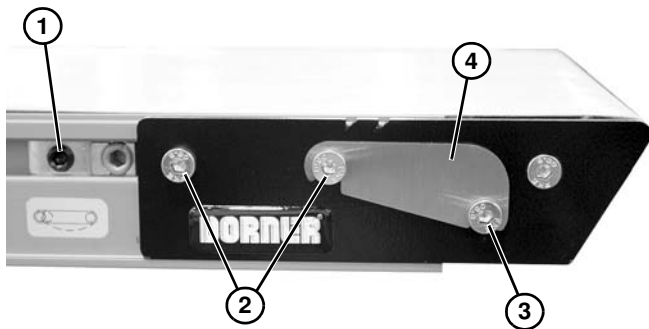
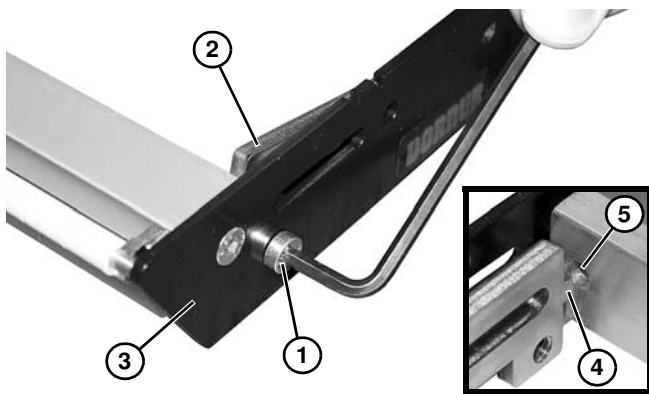

Figure 102
Figure 103
1. On both sides of conveyor, loosen cam fastening screw (**Figure 102, item 1**) (if equipped) and slide cam assemblies toward the center of the conveyor.
2. On both sides of conveyor, loosen two fastening screws (**Figure 102, item 2**) to remove belt tension. Remove belt from end of conveyor.
3. On both sides of conveyor, loosen fastening screw (**Figure 102, item 3**) and remove dust cover (**Figure 102, item 4**) (if equipped).
4. Remove nosebar tail from the conveyor and place on an open work surface. On one side of nosebar tail, remove two fastening screws (**Figure 102, item 2**).
5. Remove lower screw (**Figure 103, item 1**) and remove tail nut bar (**Figure 103, item 2**) and side plate (**Figure 103, item 3**).
During reassembly, make certain that the tail nut bar nipple (**Figure 103, item 4**) is inserted into the support bar hole (**Figure 103, item 5**).
8. Assemble and install head plate in reverse order of removal. Use a hex-key wrench to tighten lower screw (**Figure 103, item 1**) to 30 in-lb (3.4 Nm). Leave two fastening screws (**Figure 102, item 2**) loose for belt tensioning.